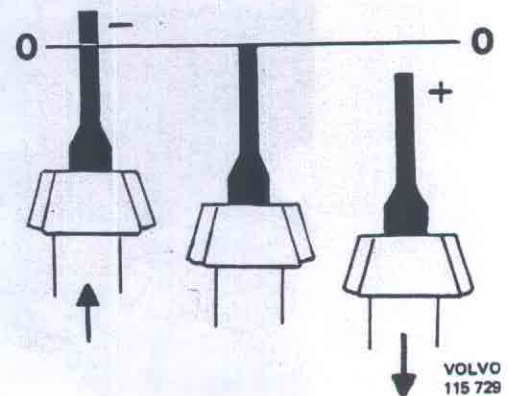

Fig. 46-58. Pinion location
4. The pinion should have a certain nominal measurement (1, Fig. 46-58) to the crown wheel centreline. Due to tolerances in manufacture, deviations from the nominal measurement arise. Deviation is indicated on the ground face of the pinion with a figure. Deviation (e.g. 1 = 0.01 mm = 0.0004") can either be + or -. To check the pinion location, use a dial indicator as well as a measuring tool 6113, which consists of two parts: a pinion gauge and an adjuster jig.